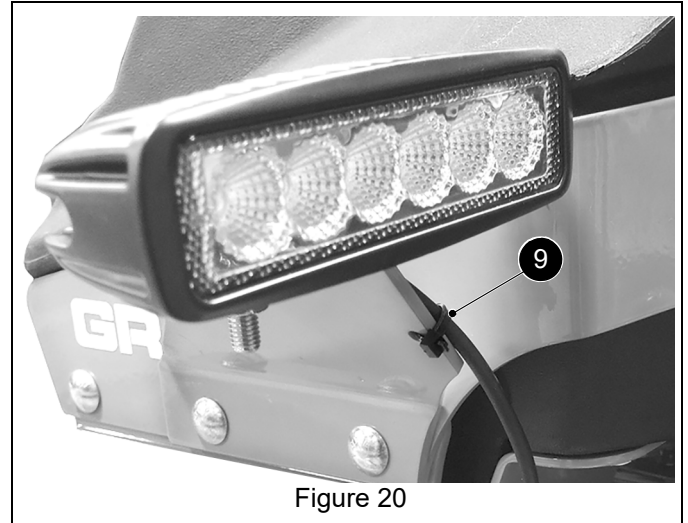

Figure 20
19. Secure left and right headlight cables to mount brackets with one cable tie (item 9) routed through hole in bracket. See Figure 20.